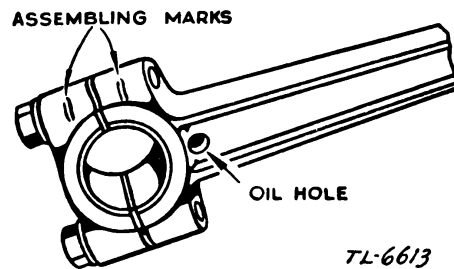

FIGURE 17. Connecting rod.
**e. Connecting rod** (fig. 17). The connecting rod is assembled to the crankshaft with the oilhole in the lower bearing on the magneto side. The assembly marks on the bearing cap and connecting rod must be facing toward the cam gear. The screws are fastened with a screw-head locking plate. This screw-head locking plate must fit against the shoulder, and must be bent up against a flat side of the hexagon-head screw.